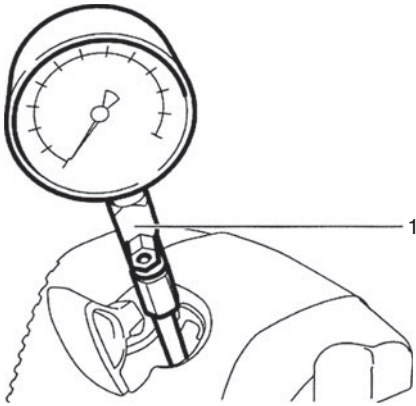

FIG. 6-1. *Small-engine mechanics live by their compression gauges.* ANDREAS STIHL AG & Co. KG
- With the throttle and choke wide open, crank the engine through three or four times (Fig. 6-1). If compression is lacking, remove the muffler and check the condition of the rings and cylinder as described in Chap. 2, "Troubleshooting."